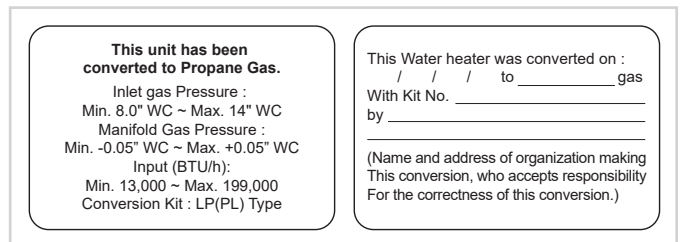

Figure 11
Conversion kit must be ordered in order to convert gas type (not included with the heater). Verify the supplied gas type before completing the gas conversion. After conversion, the label (included with the conversion kit) displaying the converted gas type must be attached to the water heater. (Refer to Figure 11)
- Attach the label (Figure 11) in a conspicuous location adjacent to the rating plate.